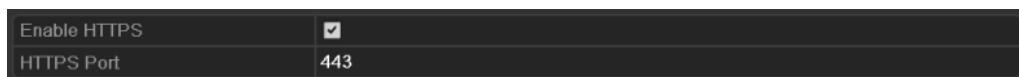

Figure 9. 19 HTTPS Settings Menu
2. Select the **More Settings** tab to enter the More Settings interface, as shown in Figure 9. 14.